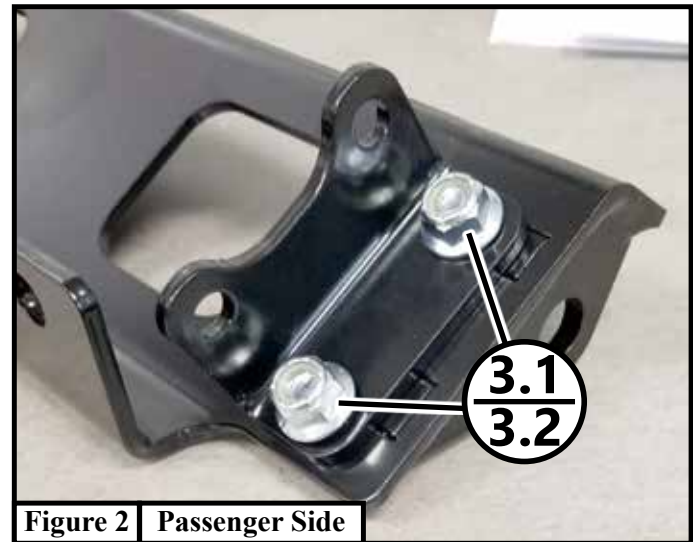

Figure 2 Passenger Side
“Figure 2” Spring Assembly
2. Install the plow springs (Item 7.3) into the upper rear holes of the UTV cradle as shown in **Figure 2**. Attach eyebolts (Item 7.5.8) to the ends of the springs and secure them to the blade gussets using nuts (7.5.9) and washers (7.5.10). Leave the spring tension loose at this time.